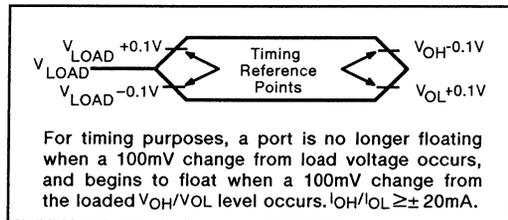

Figure 7. Float Waveform
5. See Figures 7 through 10 for ICC test conditions.